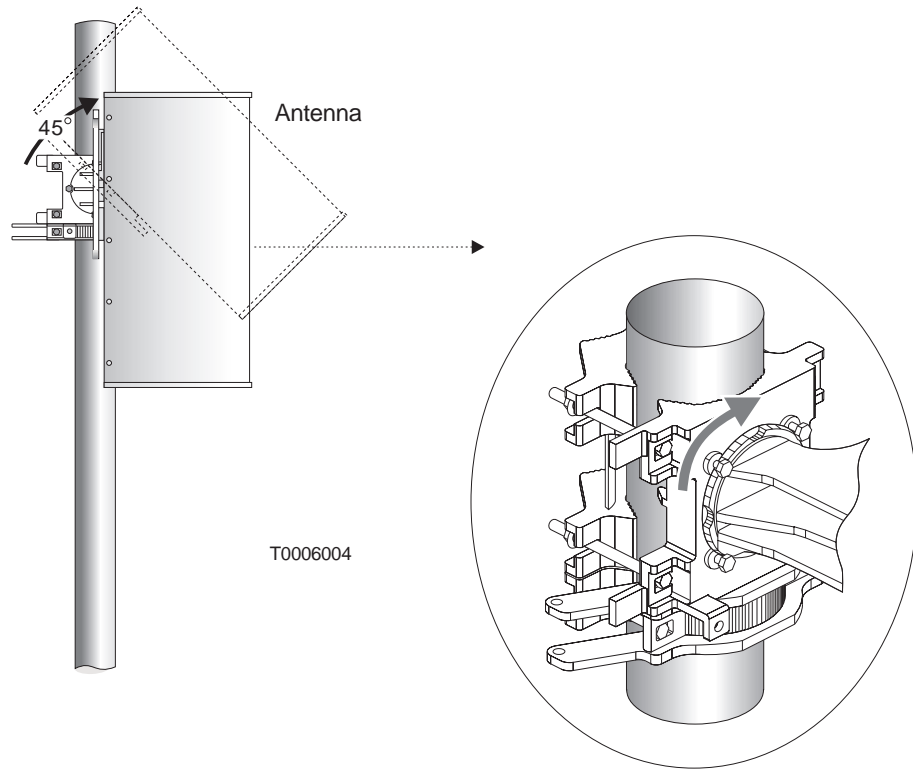

Figure 4-14 Rotating the antenna to the upright installation position
6. Rotate the antenna approximately 45° toward the HT alignment direction (sector), to the upright position, as shown in figure 4-14—then **finger tighten** the antenna bracket locking nuts so the antenna is snug and without excess movement.